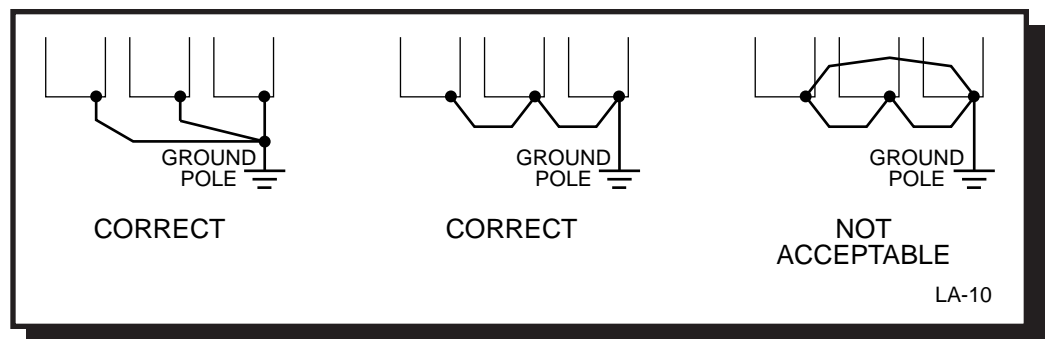

Figure 5. Proper Grounding of Three VCD 723 Drives
- Where several VCD 723 drives are used side by side, all should be grounded directly, or daisy chained to earth ground (see Figure 5). DO NOT FORM A LOOP WITH THE GROUND LEADS.